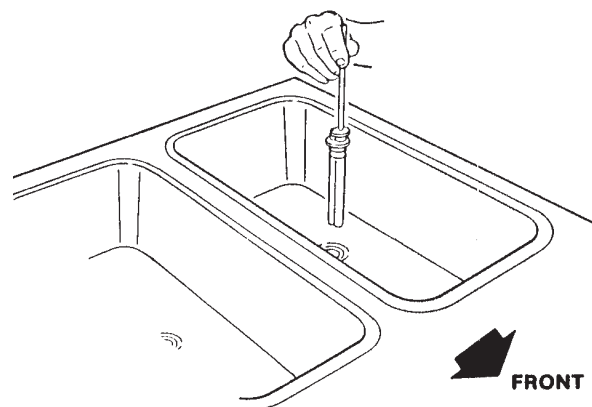

Figure 18. Removing Mix Inlet Regulator
- A. Remove the mix inlet regulator from the hopper by pulling straight up (Fig. 18).